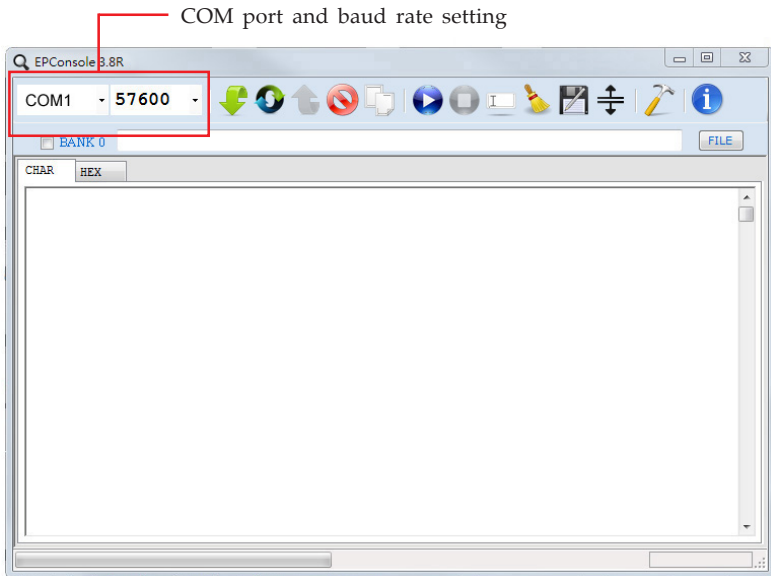

Figure 3
4. Open the firmware update software, set the correct COM port and baud rate, see **Figure 3**. **Note:** baud rate 57600 is required.